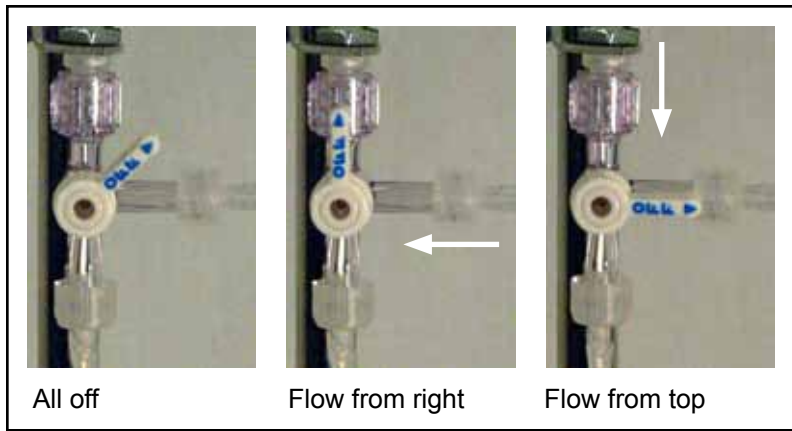

Figure 1
4. Using a flat-head screwdriver, tighten the screw until the clamp is secure on the pole (see Diagram B). Please note how the three-way valve operates (see Figure 1). One fluid enters the valve from the right, one from above, with the outlet draining out the bottom. To shut off all liquid flow, position the valve handle between the two entering liquids, at the 2 o'clock position. To allow fluid to flow from the reservoir on the right, position the valve handle at noon; the fluid from the left reservoir flows with the valve handle at 3 o'clock.